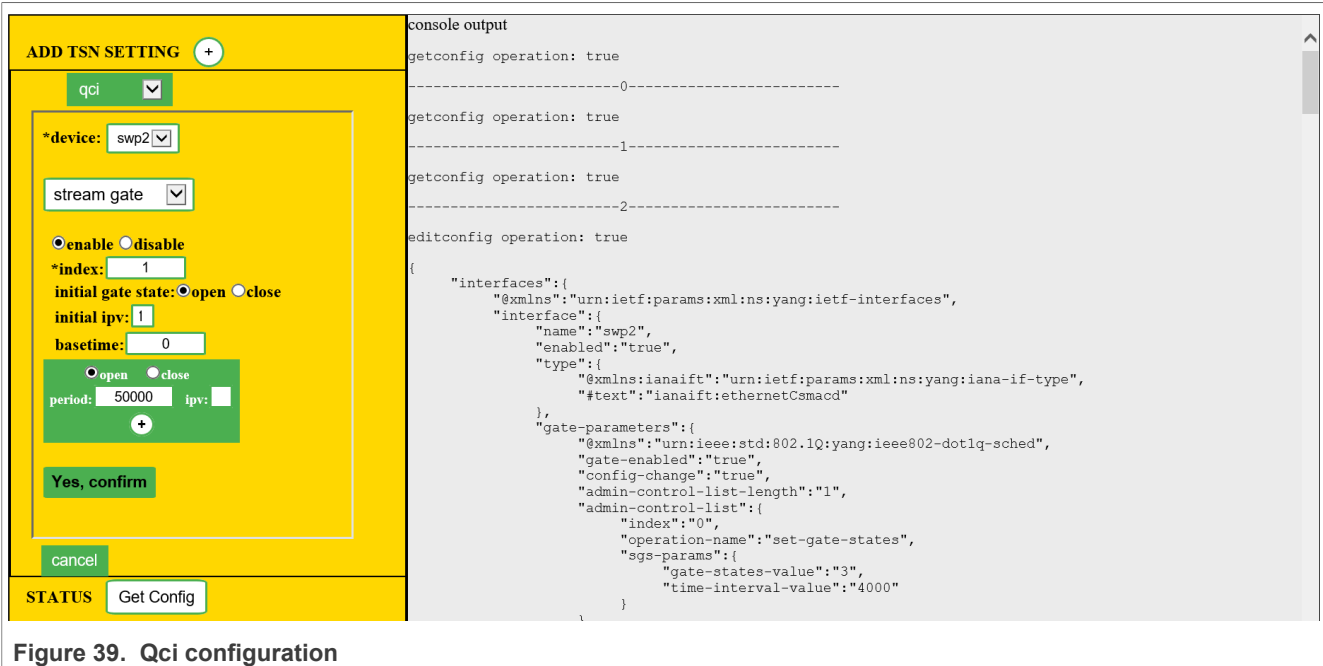

Figure 39. Qci configuration
- **Qci Configuration:** Selecting 'qci' option setting displays the options as shown in Figure 39.